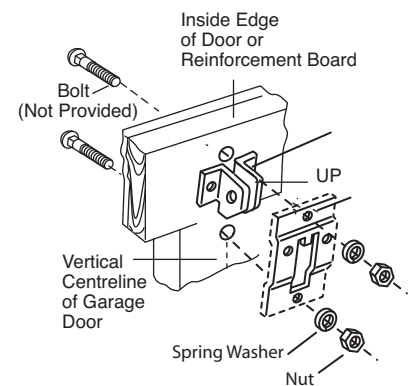

Figure 4
- Use top and bottom or side to side door bracket holes. Drill 8mm holes through the door and secure bracket with 8mm carriage bolts, spring washers and nuts (not provided) (Figure 4).